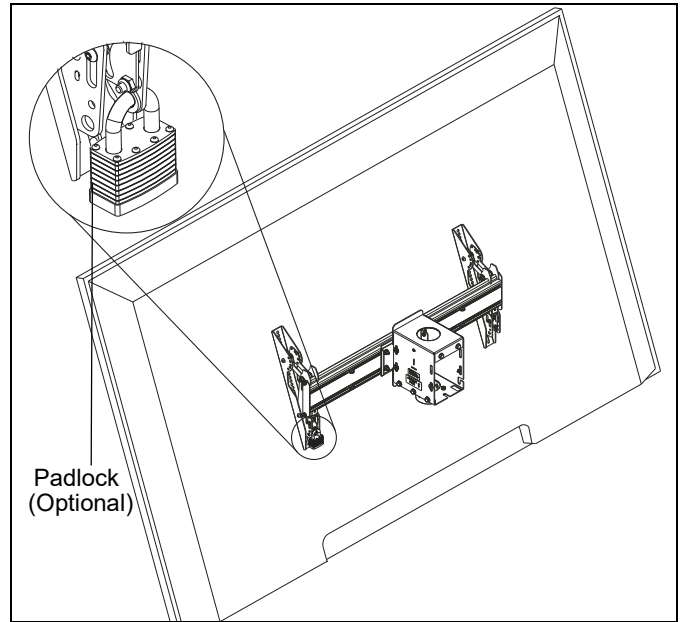

Figure 12
1. Add padlock (not included) to each interface bracket to lock latch and to provide security for displays. (See Figure 12)